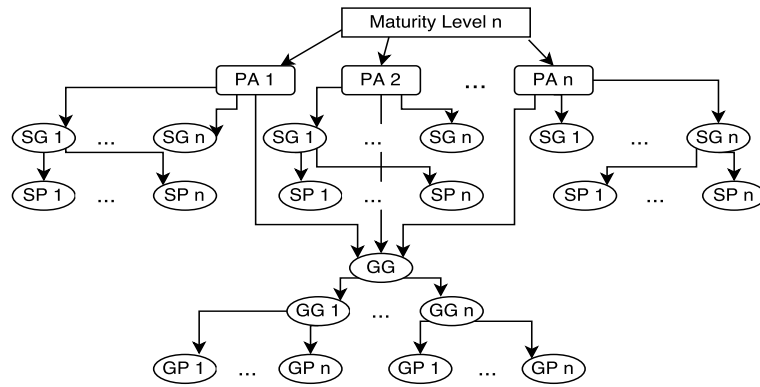

Fig. 1. The Specific and Generic Goals and Practices.
Process Areas (PAs) are the fundamental activity for TeaM. Each PA consists of Specific Goals (SG), which include Specific Practices (SP) and Generic Goals (GG), which include Generic Practices (GP). Specific Goals are specific to a PA, while Generic Goals are common for all PA (Fig.1). The latter have to do with the institutionalization of the Process Area (Capability Level). A set of Specific Goals should be fulfilled in order to pretend the Maturity of a process. A Maturity level is achieved when all the Process Areas assigned to that level reach the maximum Capability level (completion of all Generic Goals). For instance, to reach Maturity level 2, all Process Areas assigned to Maturity level 2 must achieve Capability level 2 or 3. To reach Maturity level 4, all the Process Areas assigned to Maturity levels 2, 3 and 4 must achieve Capability level 3 (the maximum level).